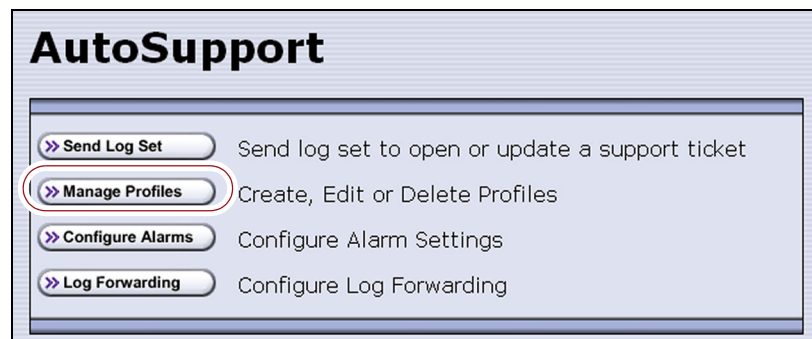

Figure 211 Click **Manage Profiles** to create or edit an AutoSupport profile.
If one of the profiles is configured as an AutoSend recipient, the **Configure Alarms** button is active (see Figure 211 on page 349).
2. From the toolbar menu, select **Maintenance**  **AutoSupport**. The AutoSupport screen displays (see Figure 211 on page 349).